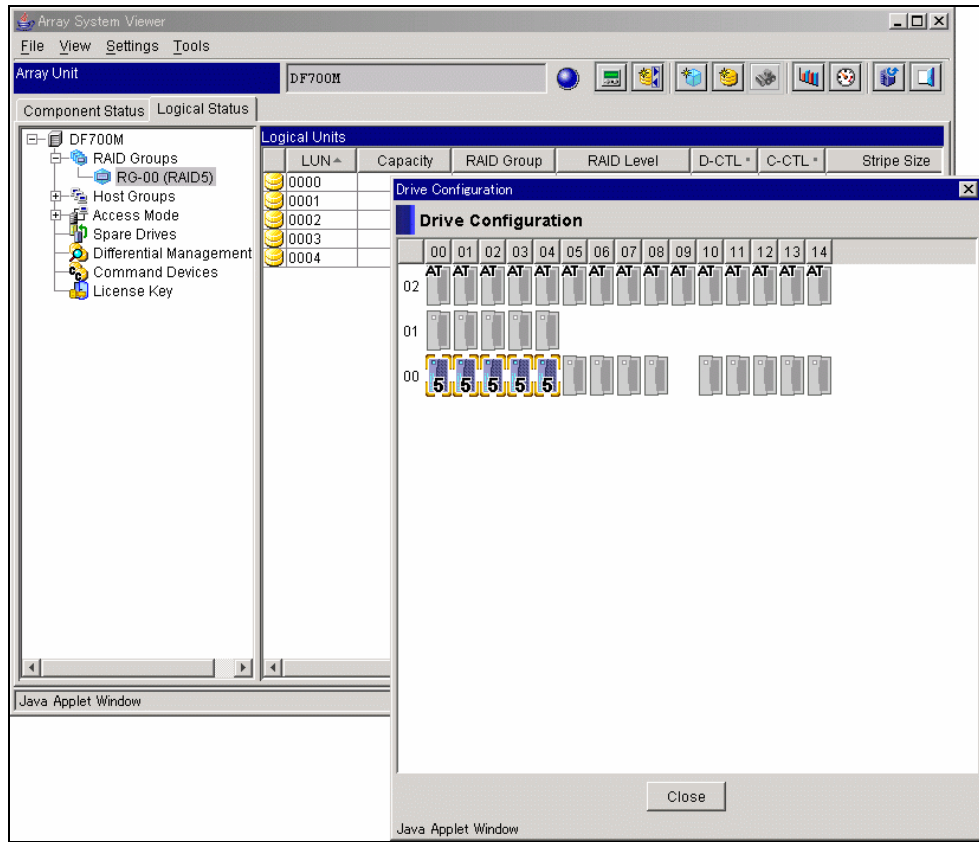

Figure 5.2 Array System Viewer - Drive Configuration
- When you click the RAID group number icon, the RAID level is highlighted on the icon for the drive that composes the RAID group. Figure 5.2 shows a modified layout. The displayed RAID level overlaps the icon.